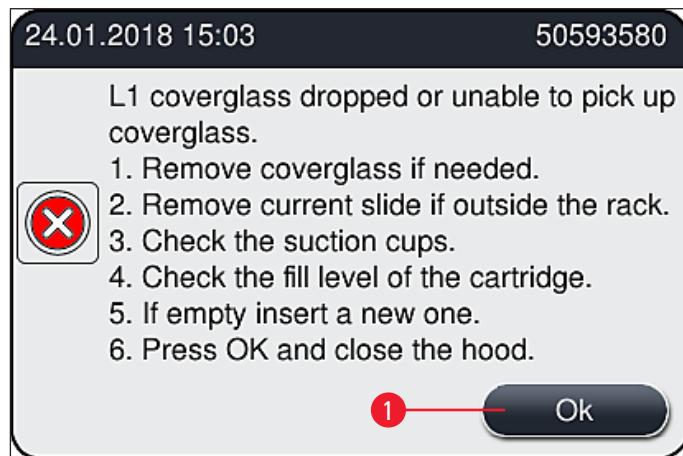

Fig. 110
If the **Pick&Place module** loses a coverglass during transport to the slide or if the **Pick&Place module** cannot remove a coverglass from the coverglass cartridge after 3 attempts, the user is notified of this through an error message (→ Fig. 110).
- ⓘ If this message (→ Fig. 110) is displayed, the user must first check whether a coverglass has been lost during transport to the slide or whether the **Pick&Place module** was unable to take a coverglass from the coverglass cartridge.